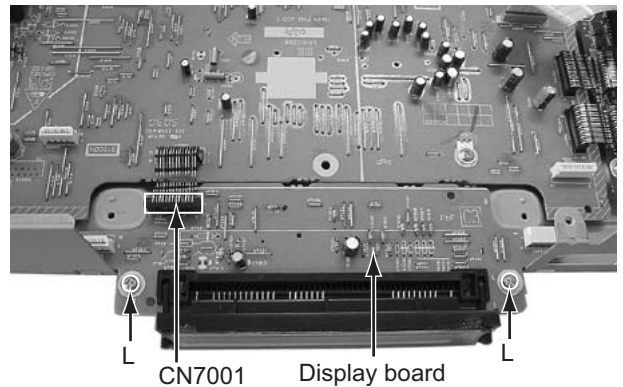

Fig.10
3.1.6 Remove the display board (See figure 10)